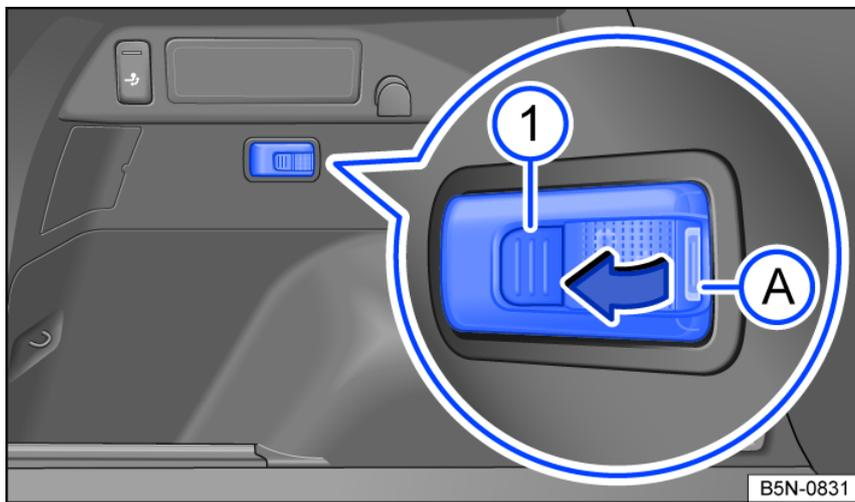

Fig. 161 In the luggage compartment (left-side): Removable luggage compartment light.
- Take hold of the removable luggage compartment light in the *fig. 161* **A** area.
- Press the *fig. 161* **1** button to switch on the light. The light will switch on at full brightness.
Switch off the removable luggage compartment light and push it into the bracket in the opposite direction to the arrow *fig. 161*.
- Remove the battery cover with a thin object below the *fig. 161* **A** area.